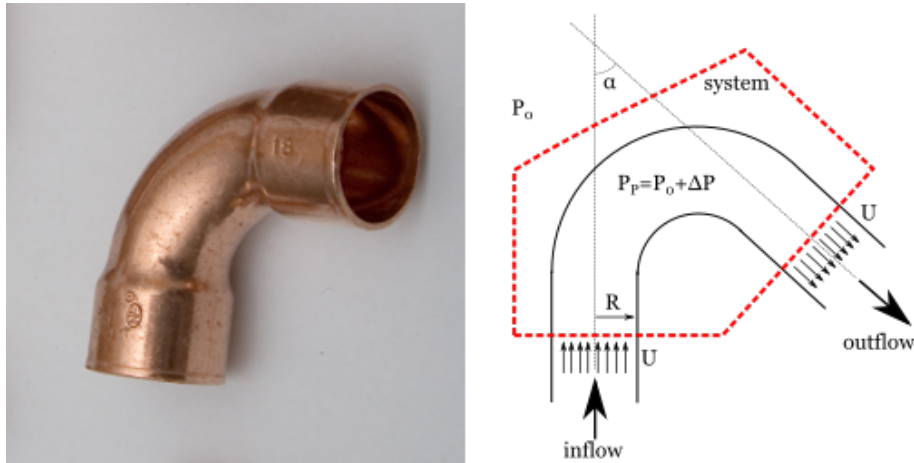

Figure 15: Left: pipe elbow. Right: representation of a pipe bend.
We take the geometry of figure 15. The bend makes an angle α . The radius of the pipe R is the same before, in and after the bend. We assume that viscous effects can be neglected and that the velocity field inside the straight pipes is the one of a plug flow with a constant velocity U . We assume that the flow is steady with a constant flow rate $Q = \pi R^2 U$. We note P_0 the atmospheric pressure, P_p the pressure inside the pipe and $\Delta P = P_p - P_0$ the overpressure.
(1) What is the direction of the force exerted on the bend ?
(2) Among the possibilities, chose and argue what is the amplitude of the force that the flow is exerted on the bend. Take the portion delimited by the dashed line in Fig. 15 as the system: